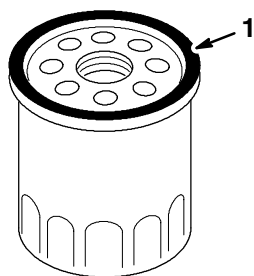

Figure 38
5. Use your finger to coat the gasket on the new filter with oil (Fig. 38).